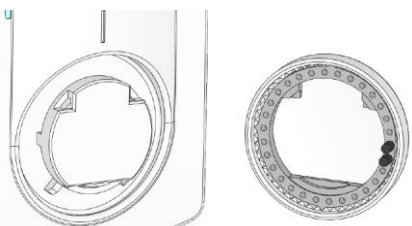

Fig. 1
- Remove the internal wheel from the button. (Figure 1)